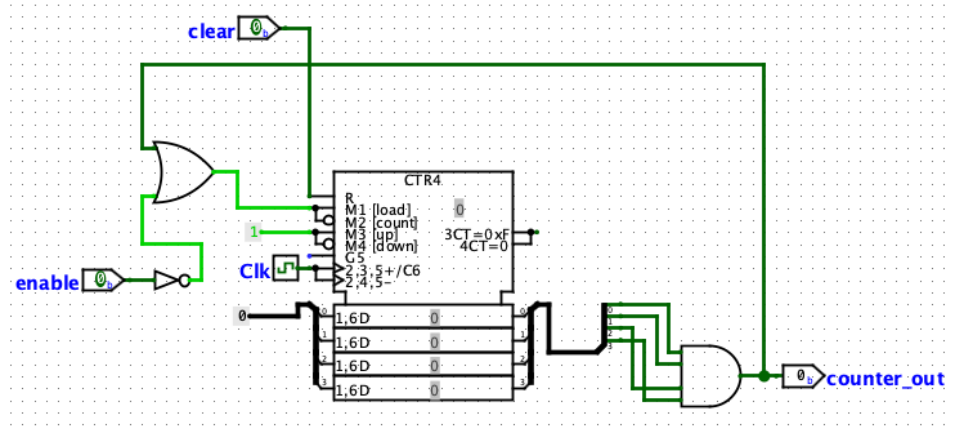

Figure 2: Counter in Logisim
Figure 2 shows an example of a counter in Logisim that counts in hexadecimal from 0 to F. You can find this counter in *Memory > Counter*.
1. The AND gate on the right side of Figure 2 performs two tasks: it turns on the output *Enable* signal once the counter reaches a certain value and it performs a parallel load of a new counter value (specified by you) on the next clock cycle. This is one way to make the *RateDivider* counts a certain number of clock cycles before turning on the enable signal. Using this idea, changing the frequency of the new clock signal would just involve changing the value you load into the counter.